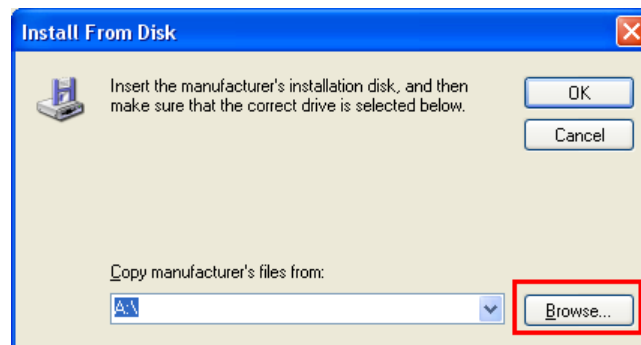

Fig. 3-4 Find driver location—2
- 4) Click “Have Disk...”, a new window to appear, as shown in Fig. 3-4.